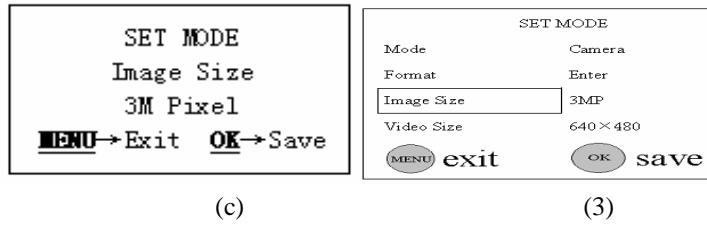

Figure 7: Setting pixel size
- Push the UP or DOWN key till the parameter “Image Size” appears, shown in the Fig. 7(a) and 7(1).
- Push the RIGHT key, the value will be changed to “3M Pixel”, shown in the Fig. 7(b) and 7(2). The value “3M Pixel” is highlighted.
- Press OK key to save the current setting or MENU key for canceling the setting and quitting. After pressing OK key the selected value will be no more highlighted, shown in the Fig. 7(c) and 7(3).